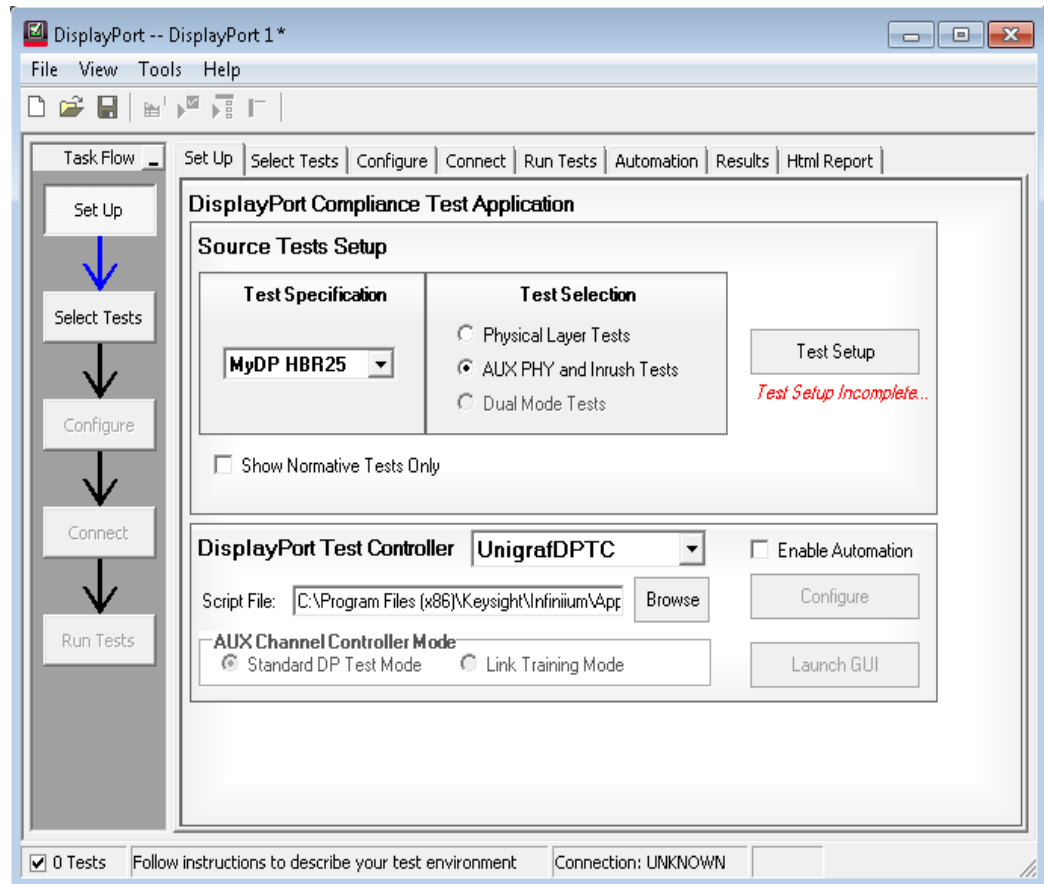

Figure 172 Set Up tab on the DisplayPort Compliance Test App
- 3 On the DisplayPort Compliance Test Application, click the **Set Up** tab (see Figure 172).